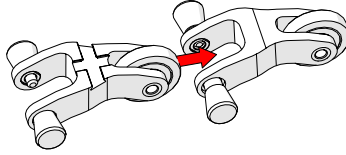

Fig. 59 - Align mounting holes
2. Align the pins with the mounting holes of the component to be connected (*Fig. 59*).